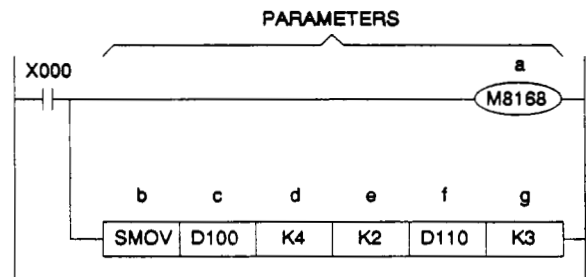

Figure 1: The Shift Move instruction in ladder format.
Shown in Figure 1 is the typical appearance of a hexadecimal Shift Move instruction in a ladder program, while Figure 2 shows the same piece of ladder logic written in instruction format.
- I) SMOV: The standard form of the instruction, taking 11 steps of program. In the example shown in Figure 1, while X000 is turned on, the SMOV instruction will operate.